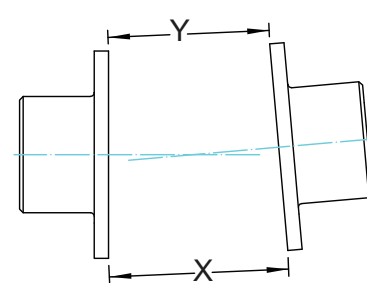

Figure 8 - Angular Misalignment (TIR) Measurement.
- 8.7. The “Angular Misalignment” value is the maximum difference between the measurements X and Y taken at opposite ends of the hub flanges, as shown in Figure 8.